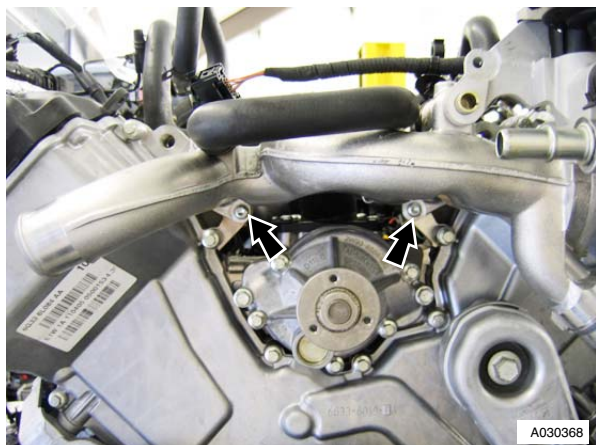

Figure 9
11. Remove 4th bolt of vacuum tank bracket fixing (refer to Figure 9).
12. Remove coolant manifold (bolts x4) (refer to Figure 9). 4. Remove pump pulley bolts (x3) (refer to Figure 1).